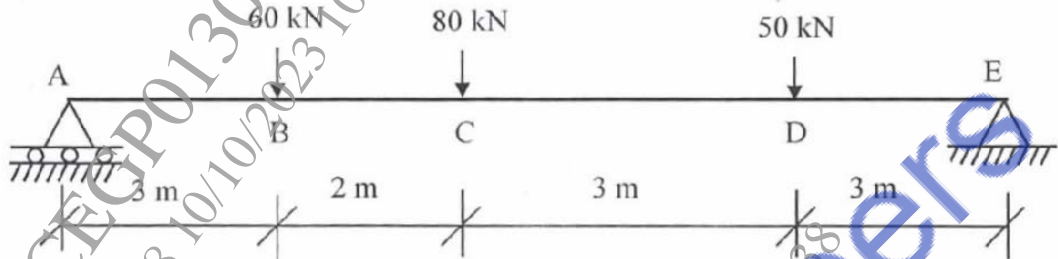

Figure 2
- Q3) a) Draw the Shear force diagram and Bending moment diagram for a beam ABCD as shown in figure 2. [7]